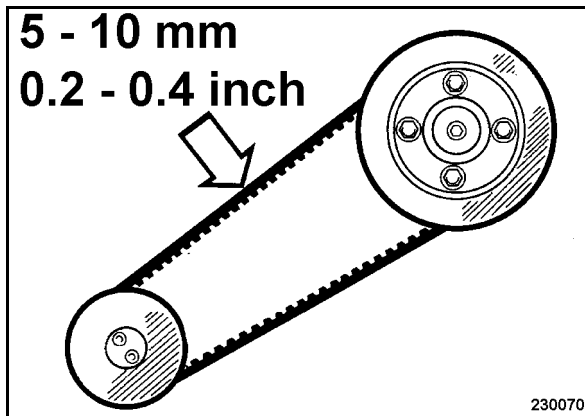

Fig. 53
- Check the condition and tension of the V-belt (Fig. 53), replace the V-belt if damaged.